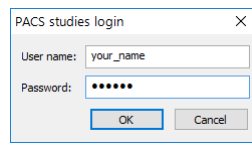

Figure 102 – PACS studies login dialog
1. Click the **Search** button. You may be asked to provide your authorization (the valid user name and password) in the **PACS studies login** dialog (see Figure 102).